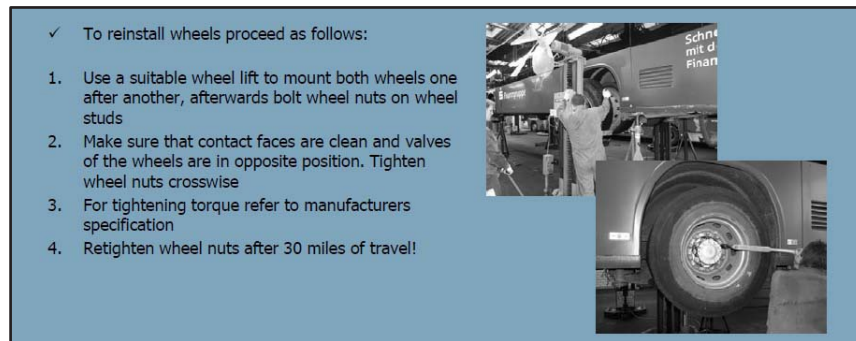

Figure 16 - Install the Wheels
1.17. Install the wheels (see Figure 16).